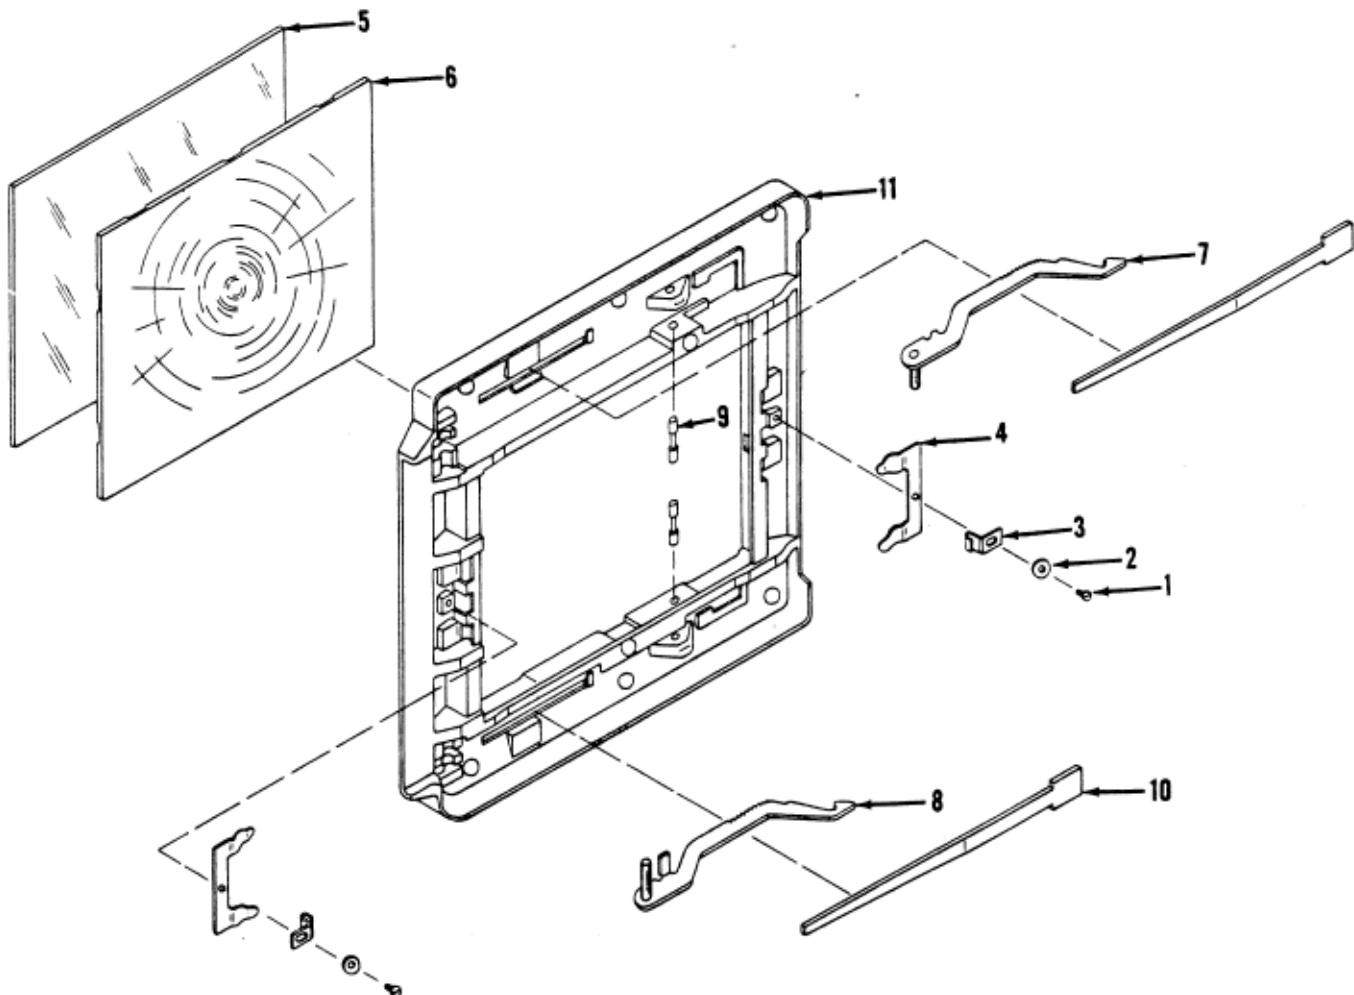

Figure 8. FOCUSING FRAME ASSEMBLY
T. FOCUSING FRAME ASSEMBLY - DISASSEMBLY AND REASSEMBLY (Figure 8)
- Remove machine screw (1), flat washer (2), focusing hood retainer (3) and focusing screen retainer (4) on two sides.
- Remove ground glass focusing screen (5) and Ektalite screen (6).
- Remove arm assembly (7) or (8) by lifting upward on hook end of arm and pulling straight backward.
- If necessary, remove spring pin (9) and arm assembly spring (10) by depressing spring (releaving spring tension on shaft of pin) and driving pin towards large opening in focusing frame (11). Repeat same procedure on opposite side.
- Wash ground glass focusing screen (5) and Ektalite screen (6) with soap and water. Rinse thoroughly and dry.